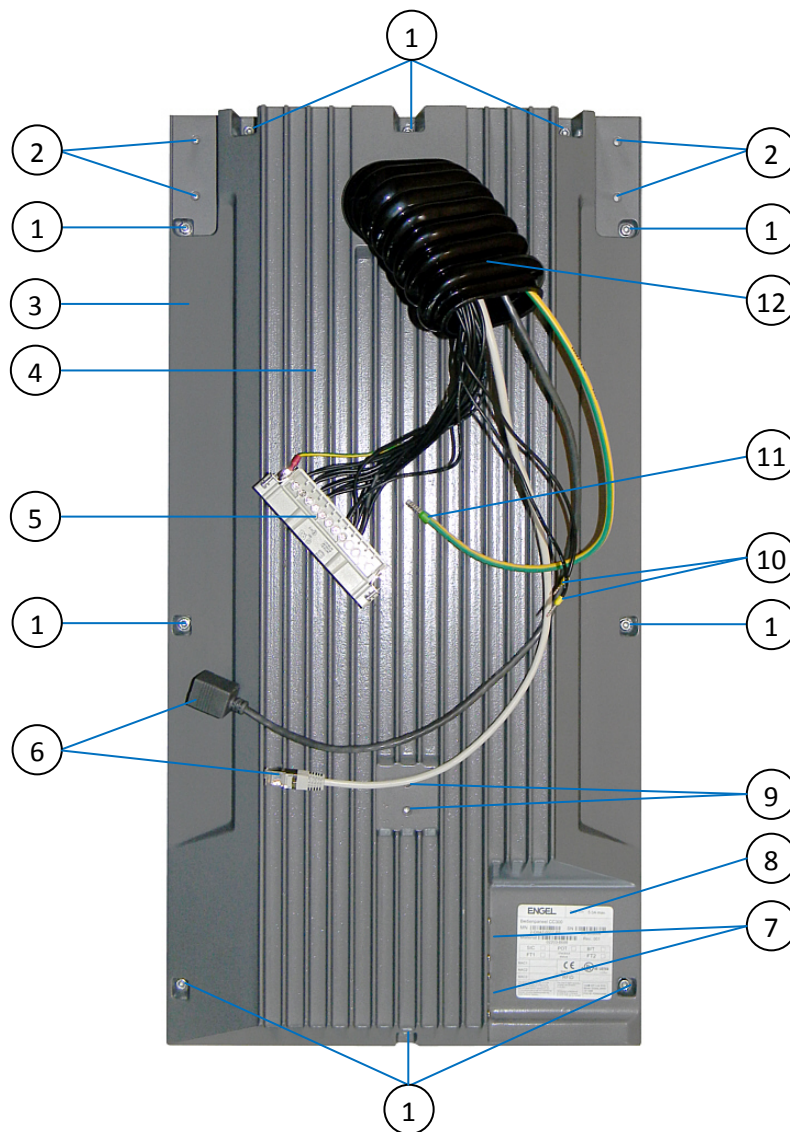

Fig. 17: Rear side of the CC300 operator panel
The nameplate is located at the bottom rear side of the cabinet (see also Fig. 17, Pos. 8)
Legend for Fig. 17 :
All outgoing cables of the CC300 operator panel are routed through the cable gland at the rear side of the cabinet (see also Fig. 17, Pos. 12). Except for the cables for the linear actuator and the grounding cable, all single wires are combined in the 24-pole Harting connector (Fig. 18). For the pin assignment of the Harting connector, refer to chapter 10.1.1 “Harting Connector”.
The two single cables marked “1” and “2” (see Fig. 17, Pos. 10) will be connected to the linear actuator of the tilting mechanism.
The CC300 operator panel must be grounded by establishing a **large-area contact** between the grounding cable (see also Fig. 17, Pos. 11) and an appropriate grounding contact. The cross section of the grounding cable is 6 mm².
2. Remove the 10x screws (M5 x 10) and the bonded seals that fix the rear cover to the front plate (see Fig. 17, Pos. 1).
4. Fix the rear cover to the front plate with the 10x screws (M5 x 10) and bonded seals removed in chapter 7.5.1 “Opening the CC300 Operator Panel”, step 2 (see Fig. 17, Pos. 1).